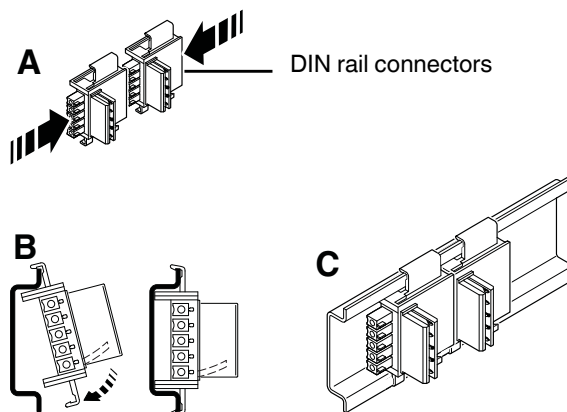

Figure 7-1 Mounting DIN rail connectors
- b) Connect together the required number of DIN rail connectors for the connection station (see figure 7-1, step A).